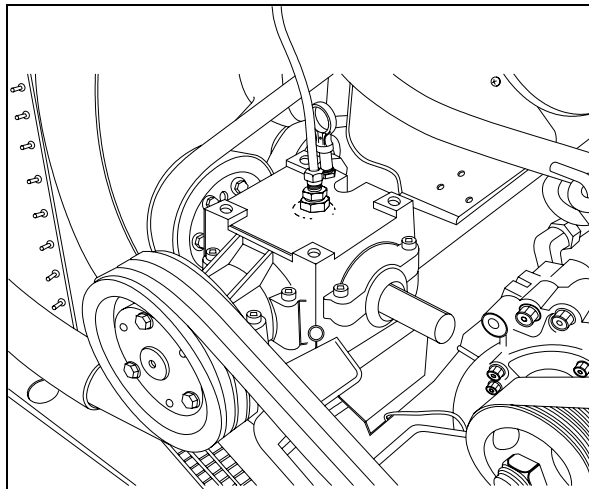

FIGURE 15: FAN GEARBOX 05062
5. Remove the dipstick located on top of gearbox and wipe with a clean rag (Fig. 15).